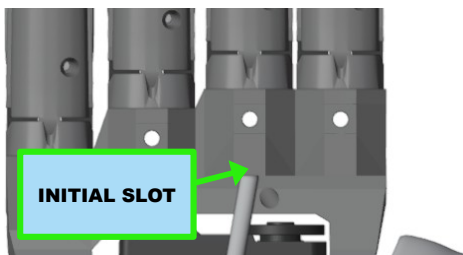
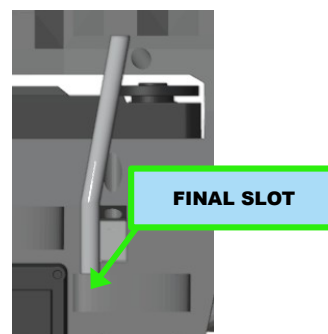

Figure 5.32 : Inserting the tube into the initial slot (rear view)
Figure 5.31 : Inserting the tube into the final slot (rear view)
1. Insert the PTFE tube into the outlet hole (on the rear of the skeleton) of the flexion tendon (figure 5.31), let it come out through the inlet hole on the front of the skeleton and insert it into the initial slot (figure 5.32)